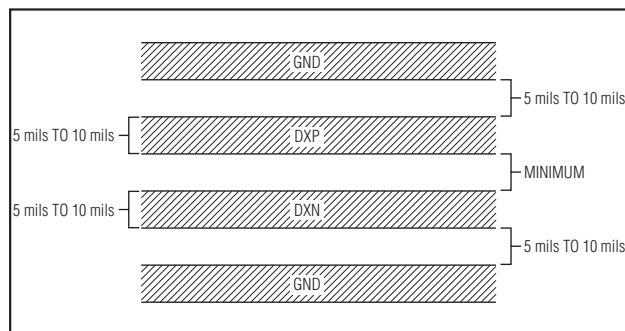

Figure 5. Recommended DXP-DXN PCB Traces. The two outer guard traces are recommended if high-voltage traces are near the DXN and DXP traces.
- 3) Route the DXP and DXN traces in parallel and in close proximity to each other. Each parallel pair of traces should go to a remote diode. Route these traces away from any higher voltage traces, such as +12VDC. Leakage currents from PCB contamination must be dealt with carefully since a 20M Ω leakage path from DXP to ground causes about +1°C error. If high-voltage traces are unavoidable, connect guard traces to GND on either side of the DXP-DXN traces (Figure 5).